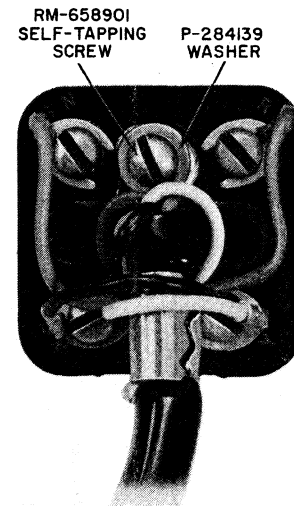

Fig. 13—D4BP Cord Terminated on 283B Plug
Note: An RM-658901 self-tapping screw and a P-284139 flat washer will be shipped with each 283B plug (Fig. 13).
(5) Bend cord spade tips and dress red and green conductors so they lie outside of the mounting screw hole guides (Fig. 13).
(6) Seat base of plug in cover before tightening screws. This prevents pinching of conductors.